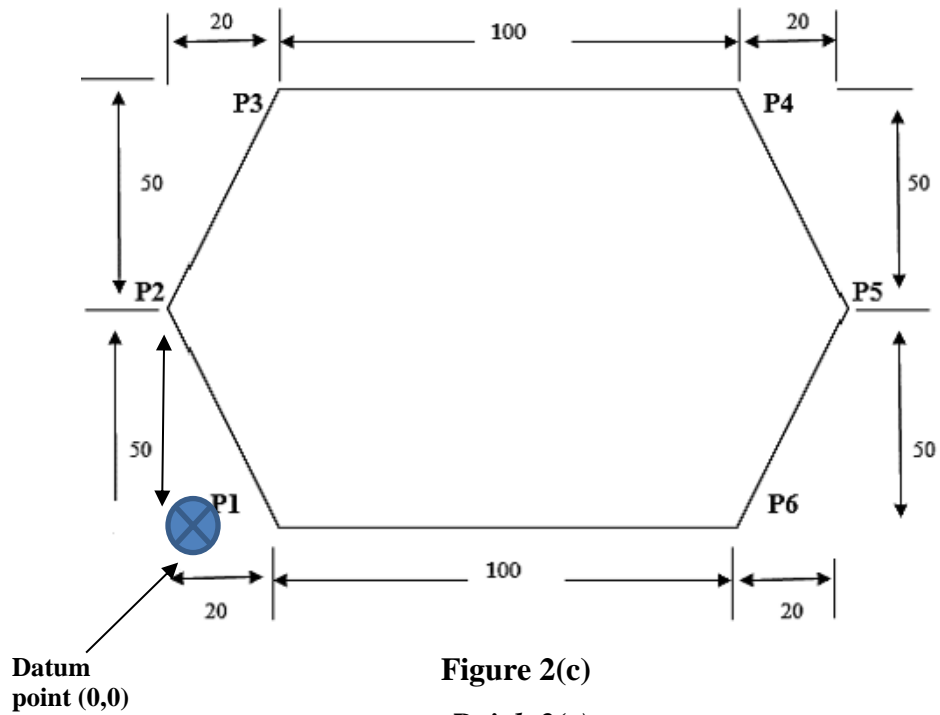

Figure 2(c)
- (c) Choose the **Absolute Coordinates (G90)** or **Incremental Coordinates (G91)** method to complete **Table 2(c)** by referring to **Figure 2(c)**.